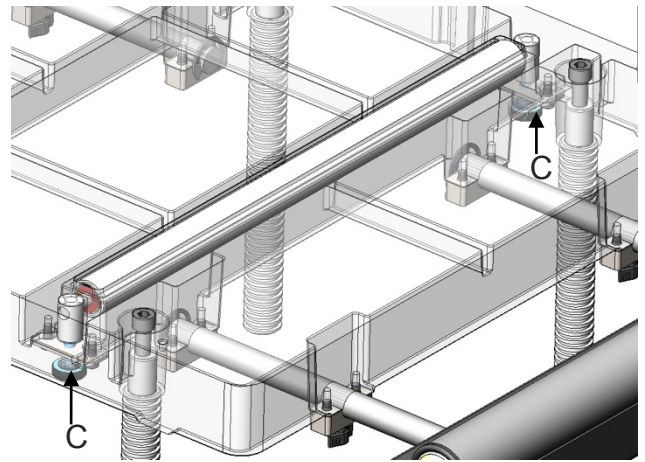

Figure 24: Table Roller Adjustment
3. Move straight edge to the opposite side of bed roller and check to see that the roller just contacts straight edge. If not turn the knob (Fig. 24, C) under the table to raise or lower the bed roller until it just contacts the straight edge.